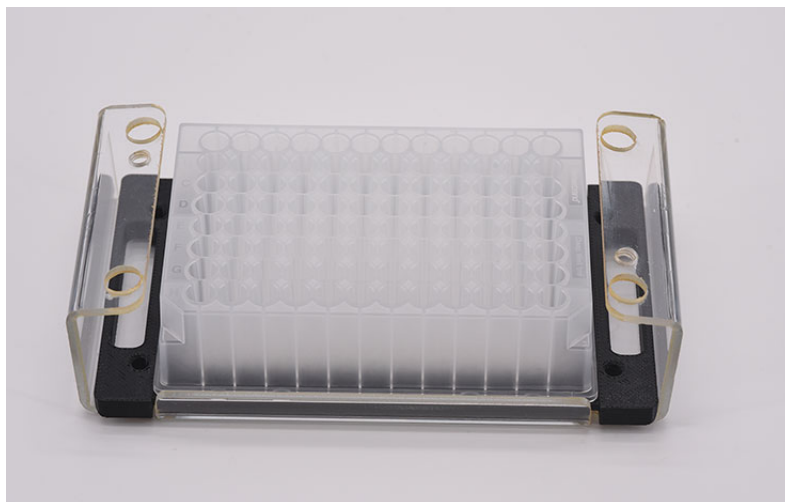

Figure 112 Array docking station with 96-deep well tray
- 3 Place a 96-deep well tray (Agilent part # P60-20 or Fisher part #12-566-120) into the array docking station with tray base (**Figure 112**).